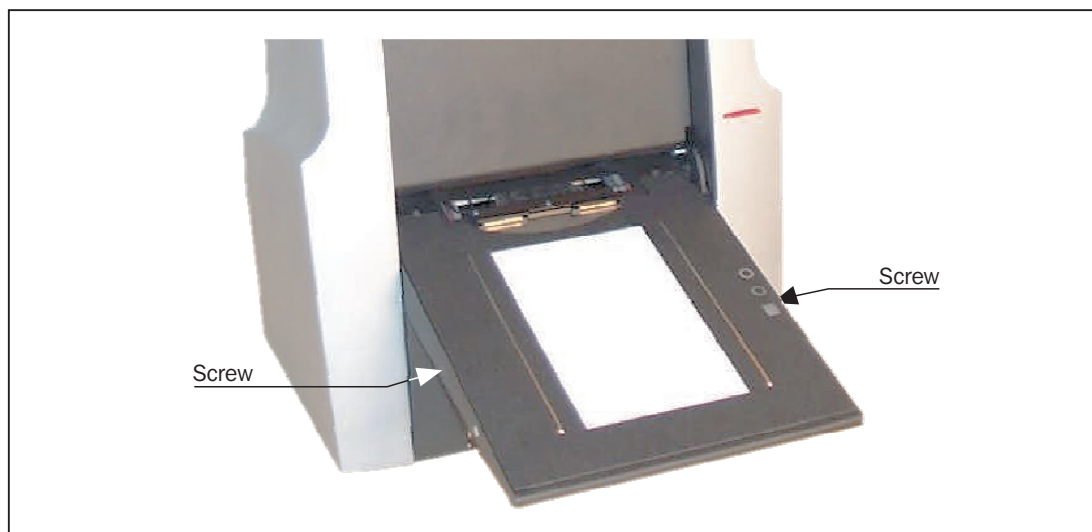

Figure 7.1: Light table screws
2. Remove the 2 allen screws (2.5 mm), 1 in each side, as shown in Figure 7.1.